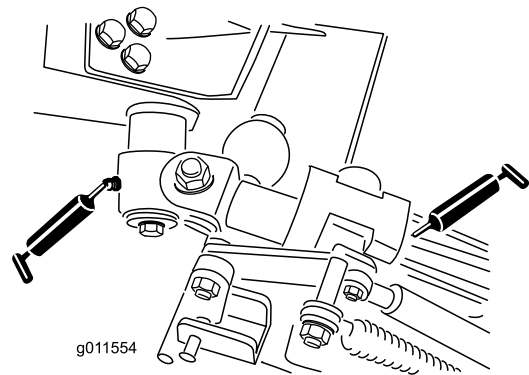

Figure 45
- 2 bell-crank-pivot bushings (Figure 45)
- 4 rear arm bushings (Figure 45)